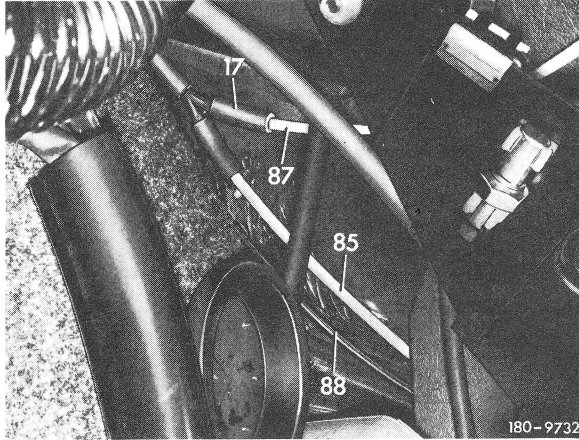

Fig. 3
In the event of a leak, pull white line (87) toward vacuum element of tank filler neck in trunk at rear right out of connection (17) (Fig. 3).
Connect tester to white line (87) and evacuate (Fig. 3).
If black line (88) (Fig. 3) toward rear end is leaking, leak is at vacuum element for trunk lid only.